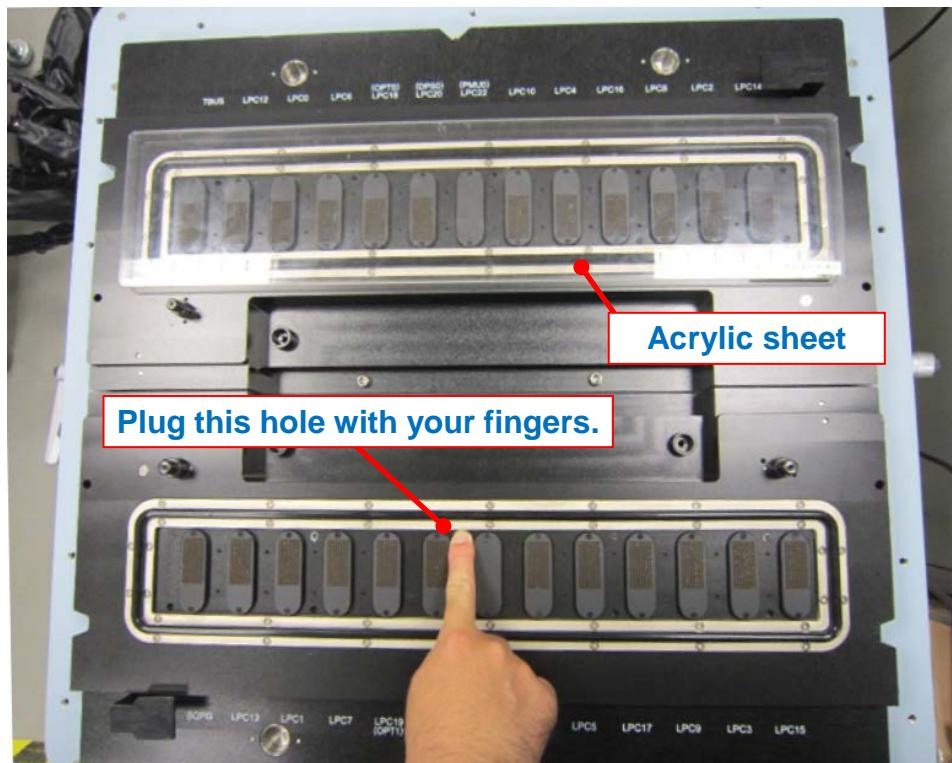

Figure 4-11 Vacuum test fixture diagram
Step 2: Plug the vacuum absorbing hole on zone B with fingers as *Figure 4-11* shows.